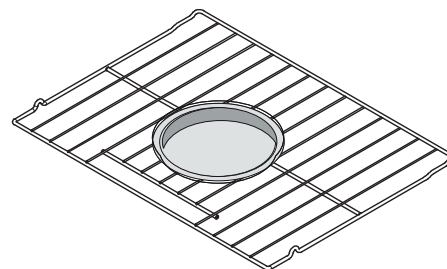
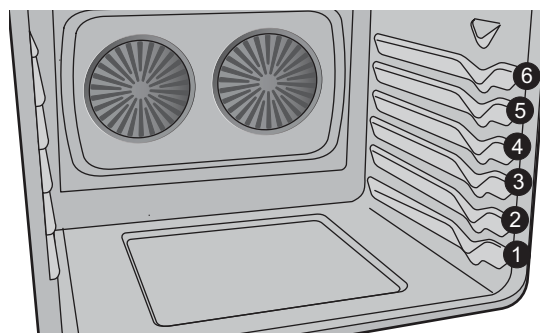

Figure 12: Single rack baking for convenience foods-- place food towards front of oven rack.
Figure 13: Oven rack positions (3) best for convenience foods.
- Always place food in center of the oven on rack position 3 (Figure 13). Place the food as shown in Figure 12 with the food closer to the front of the oven rack.